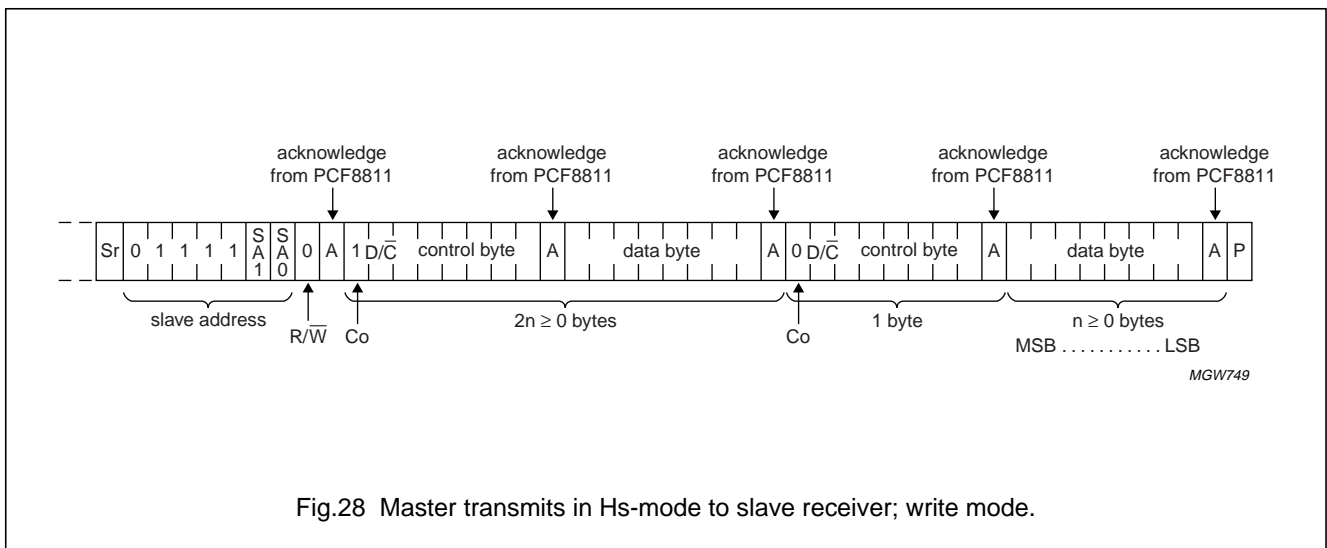

Fig.28 Master transmits in Hs-mode to slave receiver; write mode.
A write sequence after the Hs-mode is selected is illustrated in Fig.28. The sequence is initiated with a START condition (S) from the I2C-bus master which is followed by the slave address. All slaves with the corresponding address acknowledge in parallel, the remainder will ignore the I2C-bus transfer.
After the acknowledgement cycle of a write ( $\bar{W}$ ), one or more command words will follow which define the status of the addressed slaves. A command word consists of a control byte, which defines  $C_0$  and  $D/\bar{C}$ , plus a data byte (see Fig.28 and Table 4).